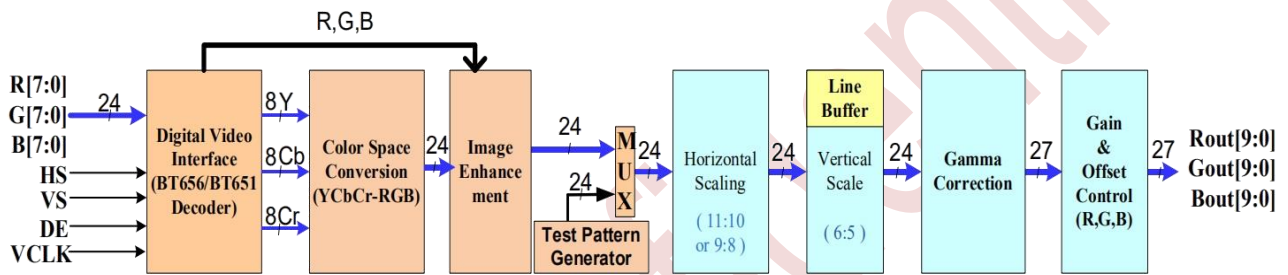

Figure 9-1 Digital Video Processing Flow Diagram
The digital video interface has three 8-bit data channels, and additional horizontal and vertical sync (HS/VS), data enable (DE), pixel clock signals (VCLK). User should select the correct signals to connect according to different Video format. VCLK is always needed in any mode. When use 8bit with embedded sync signal (8bit ITU-R BT.656 YCbCr/Mono 4:2:2), only G[7..0] bus and VCLK is needed. Figure 9-1 shows digital video processing flow.